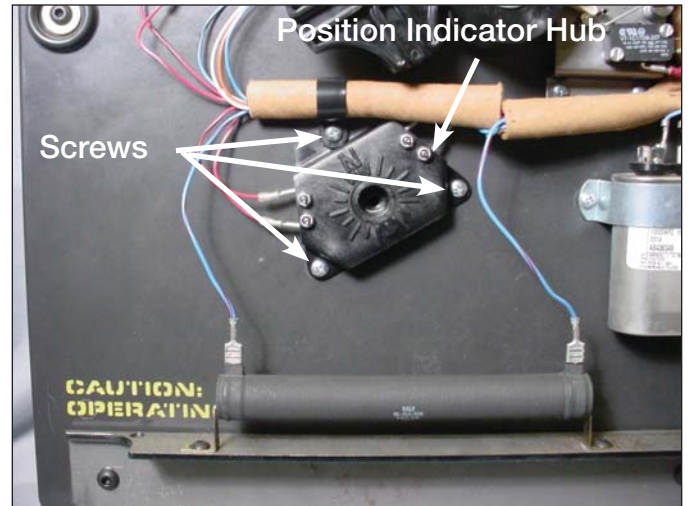

Figure 10.
- Using a Phillips head screwdriver, loosen and remove the three mounting screws fastening the position indicator micro switch hub to the front of the tap changer assembly. See Figure 10.